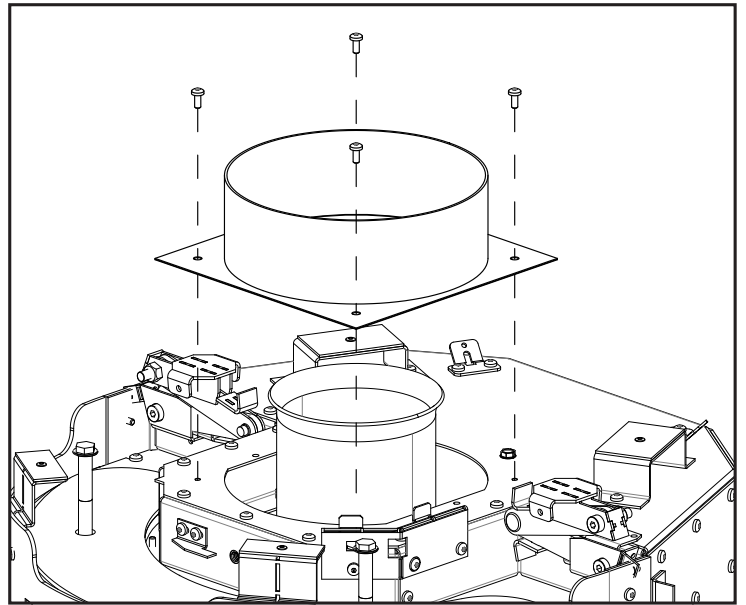

Figure 69: Vent Adapter Removal
7. Remove the vent adapter from the top of the unit by removing the four (4) T20 screws (see Figure 69). Be delicate with the gasket, you will be reusing this.